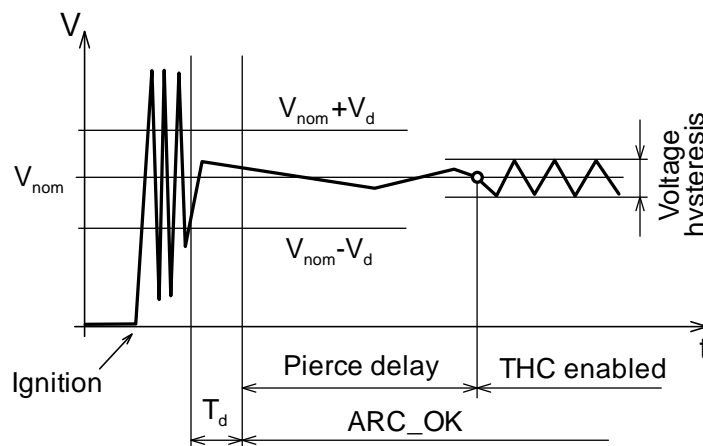

Figure 8 Plasma torch arc detection procedure
**Arc detection [±V] relative to Vnom** – option for arc presence detection (activates ARC\_OK signal) that works by monitoring the arc voltage. The first parameter that should be specified is voltage margin in positive and negative directions in relation to the nominal value (Vd on figure 8), and second parameter **Detection time** (Td), is time interval for the detection. Namely, it is required for the arc voltage to stay during this defined time period inside given voltage range to consider that arc is established and ARC\_OK signal is then activated.